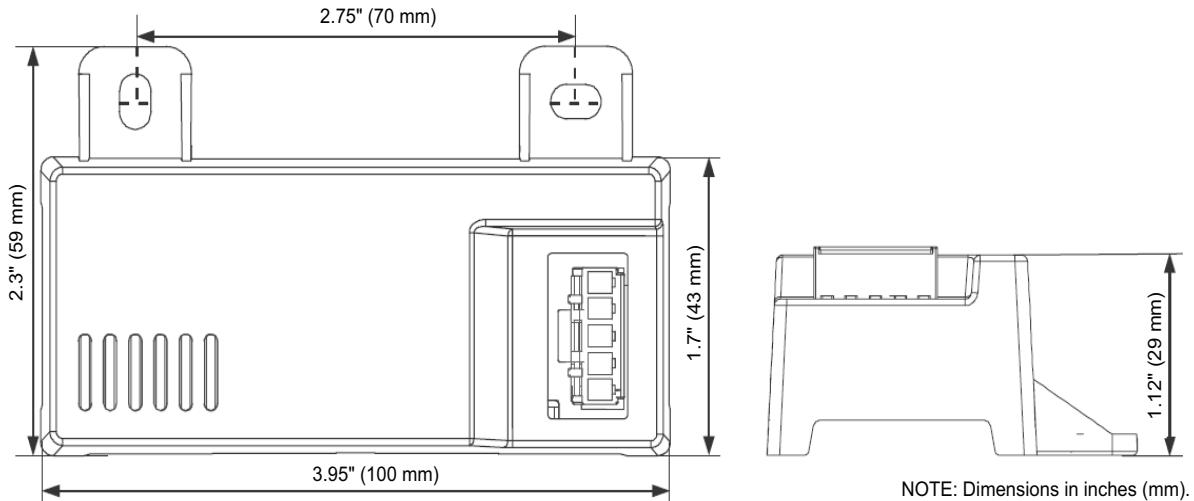
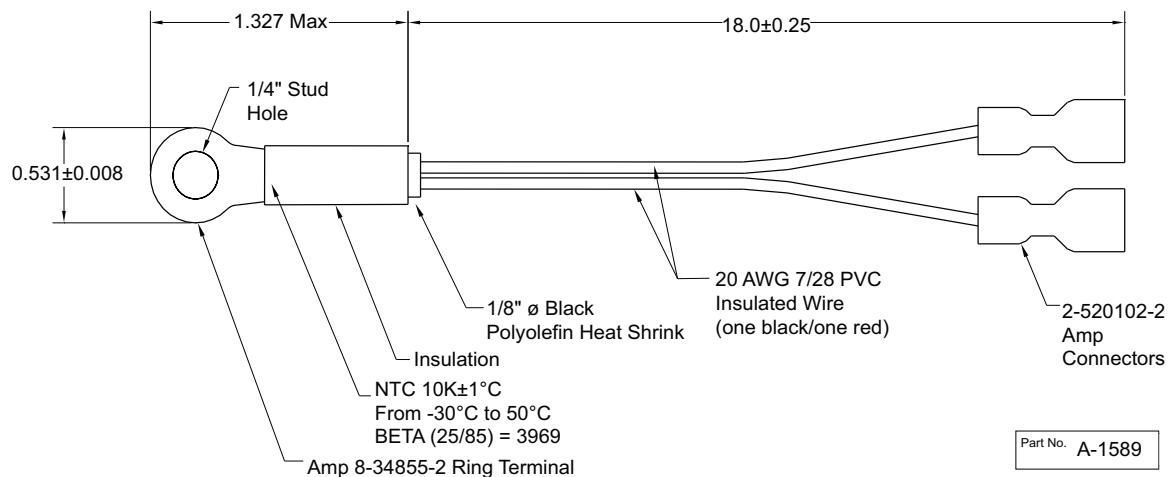
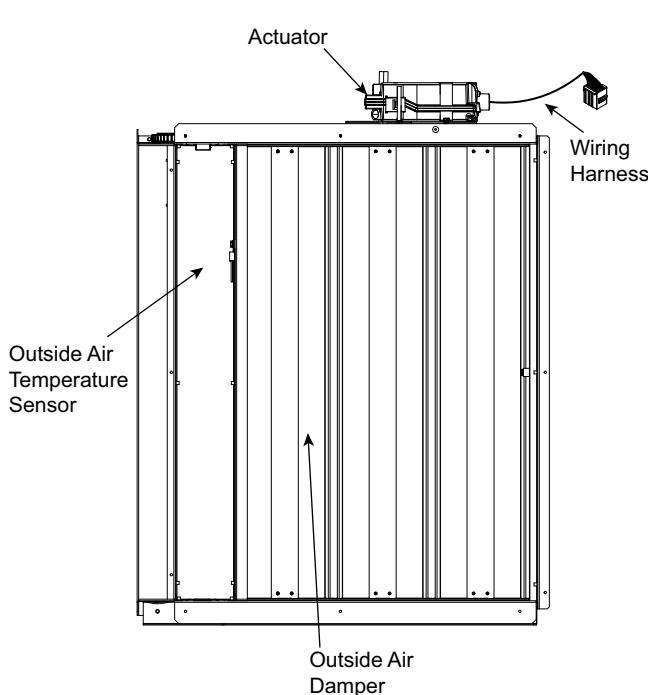

Fig. 94 — HH57LW001 Dimensional, Connection and Switching Information
Fig. 95 — HH79NZ039 Dry Bulb and Mixed Air Sensor Wiring
Fig. 96 — EconomizerONE Component Locations (CRECOMZR108A00 Shown)
When using the HH57LW001 enthalpy sensor (see Fig. 94) for outside air changeover, the existing HH79NZ039 dry bulb sensor (see Fig. 95) must be removed. The enthalpy sensor will be mounted in the same location as the dry bulb sensor (see Fig. 96). When the enthalpy sensor's OA (Outside Air) temperature, enthalpy, and dew point are below their respective setpoints, the outside air can be used for free cooling. When any of these are above the setpoint, free cooling will not be available. Enthalpy setpoints are configurable and create an enthalpy boundary according to the user's input. For additional details, see Fig. 97-98 and Table 37.
The optional enthalpy control sensor (P/N: HH57LW001) communicates with the POL224 economizer controller using the 5-wire harness, 48TC005213. The HH57LW001 sensor can be used as a single outside air enthalpy, a differential return enthalpy, or a differential return temperature sensor. Refer to the base unit control wiring diagrams found earlier in this book to wire the HH57LW001 enthalpy sensor for each option. Use Fig. 94 and Table 39 on page 77 to locate the wiring terminals for each enthalpy control sensor.
Economizers are shipped standard with an HH79NZ039 outside air dry bulb sensor (see Fig. 95). System default setting (high temp limit) is 63°F (17°C) and has a range of 48°F to 80°F (9°C to 27°C). Sensor is factory installed on economizer.
If installing the optional HH57LW001 enthalpy sensor, the HH79NZ039 dry bulb outside air sensor must first be removed. Wire sensor to harness 48TC005213 and the (5) wires from the harness to the EconomizerONE harness in the return air chamber. Harness 48TC005213 has a 5-pin plug that connects directly to the HH57LW001 enthalpy sensor. Refer to the base unit control wiring diagrams earlier in this book for wiring connections. Refer to Fig. 94 and Table 39.